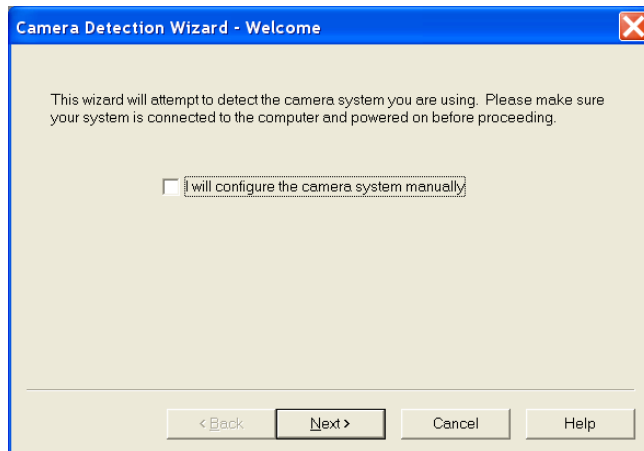

Figure 9. Camera Detection Wizard - Welcome dialog
3. On the **Welcome** dialog (Figure 9), leave the checkbox unselected and click on **Next**.